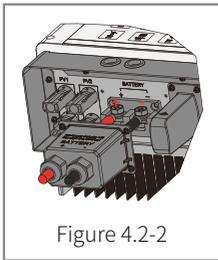

Figure 4.2-2
- **PV Input Connection:** Check the connection between the EM inverter and PV panels: Polarities (+/-) must not be reversed (refer to figure 4.2-2).